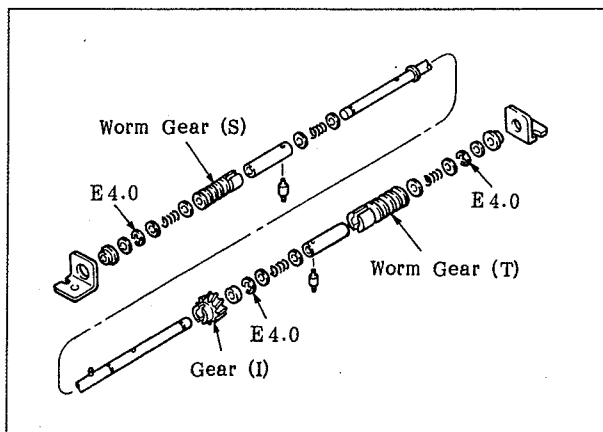

Fig. 6-69 Replacement of the Drive Shaft Assembly
2. Replace the necessary components of the drive shaft assembly by referring to Figure 6-69.